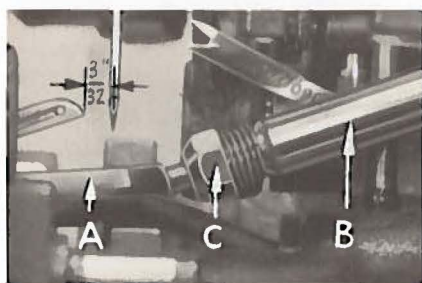

Fig. 4
At this point, insert lower looper (A, Fig. 4) on Styles 39500 FF, FG, FH or JD or lower spreader on Style 39500 GN into bar (B). With lower looper or spreader at left end of its stroke, set looper or spreader point $\frac{3}{32}$ inch from center of needle (Fig. 4 or 4A) using looper gauge No. 21225- $\frac{3}{32}$. Do not have lower looper or spreader deflecting needle. Tighten nut (C). Now assemble differential (front) feed dog.